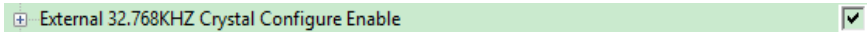

Figure 14
- External 32.768kHz Crystal Configure Enable: Click to enable “External 32.768kHz Crystal”, as shown in Figure 14. Some modules include an external 32.768kHz crystal oscillator which can be enabled. It should be disabled by default in the application example program. Note that if the BM67C741-1 module does not have an external 32.768kHz crystal oscillator, enabling this option will cause the operation to fail.